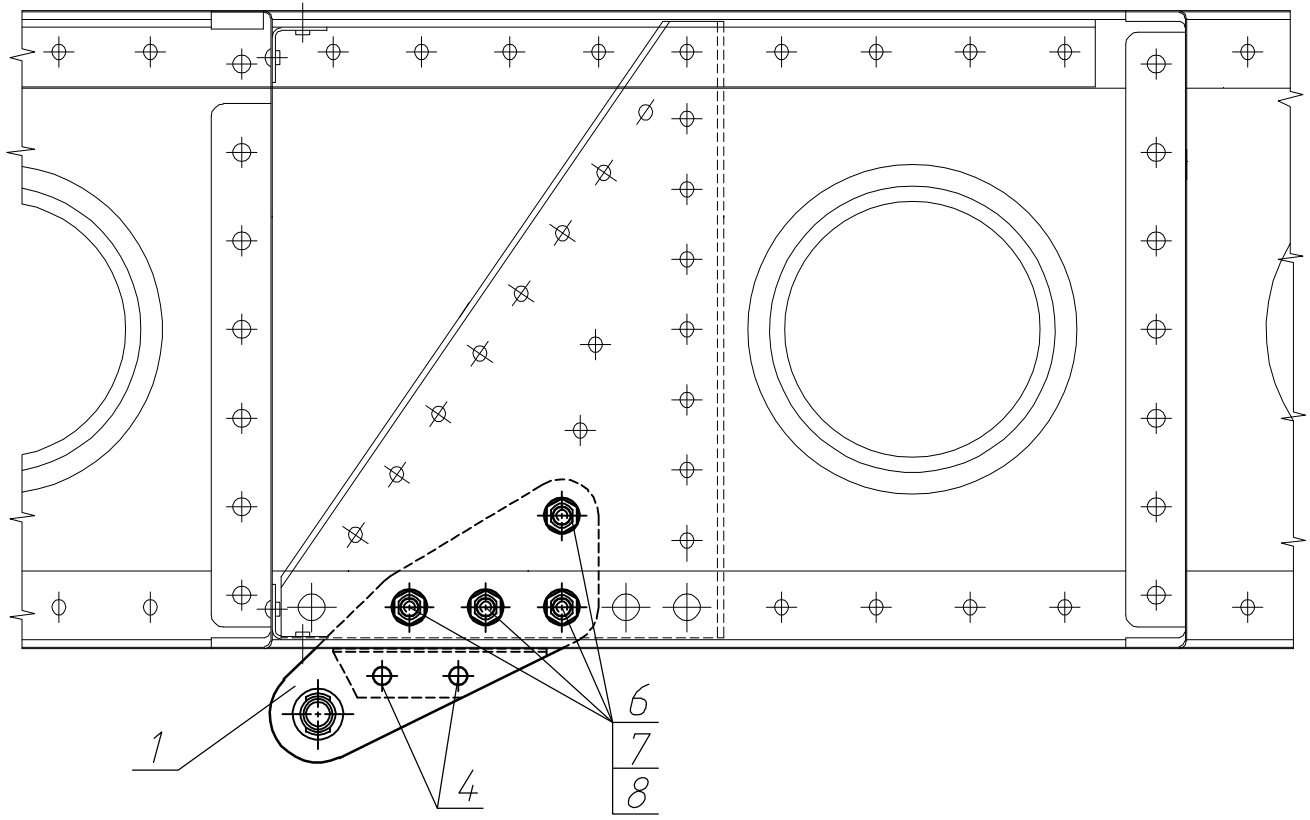

Fig. 2
- 2) Cut the fabric covering between the ribs near the strut attachment fitting (1, fig. 2) as shown on fig. 1.
- 3) Drill out old rivets (5, fig. 2) using Ø2.5 mm drill (remove the rivet cores beforehand) and remove the chips.
- 4) Undo the bolts (6) and remove wing strut attachment fittings.